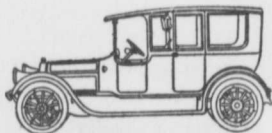

FIG. 3.
- FIG. 3.—A Pierce-Arrow Limousine. As good a car as need be built. Price \$5,200, 5 passenger, 6 cylinder, 38 horsepower.